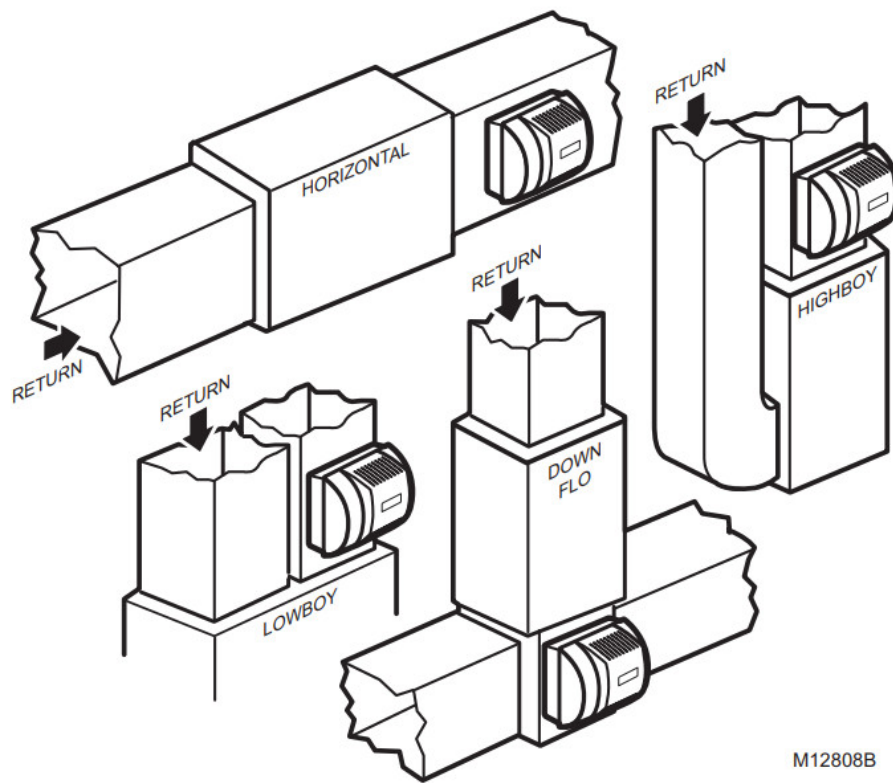

Fig. 1. Typical humidifier installation locations.
1. Determine the best location for the humidifier and draw a level line on the plenum. See Fig. 1 and 2.